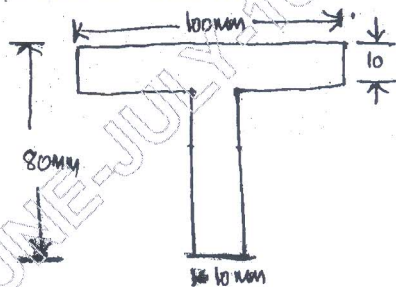

Fig.Q3(c)
- c. Determine the buckling load for a strut of Tee section shown in Fig.Q3(c). The strut is 3.0mt long and is hinged at both ends. Take $E = 2.00 \text{ GN/m}^2$ (07 Marks)